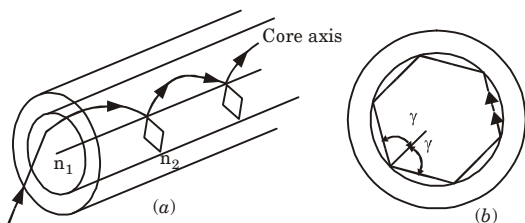

Fig. 1.7.1. The helical path taken by a skew ray in an optical fiber: (a) skew ray path down the fiber (b) cross-sectional view of the fiber.
4. From Fig. 1.7.1, it is observed that the helical path traced through the fiber gives a change in direction of 2γ at each reflection where γ is the angle between the projection of the ray in two dimensions and radius of fiber core at the point of reflection.